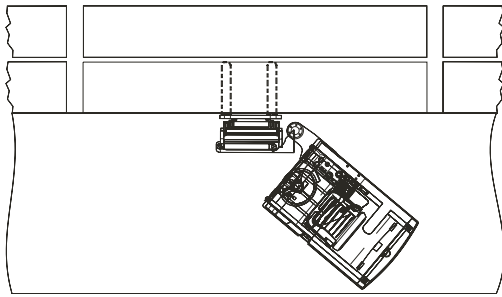

Figure: 4-51 Shifting the Forks into the Pallet
6. \* When the forks are aligned to the pallet, shift the mast to the right, inserting the forks all the way into the pallet. (See Figure 4-51.)